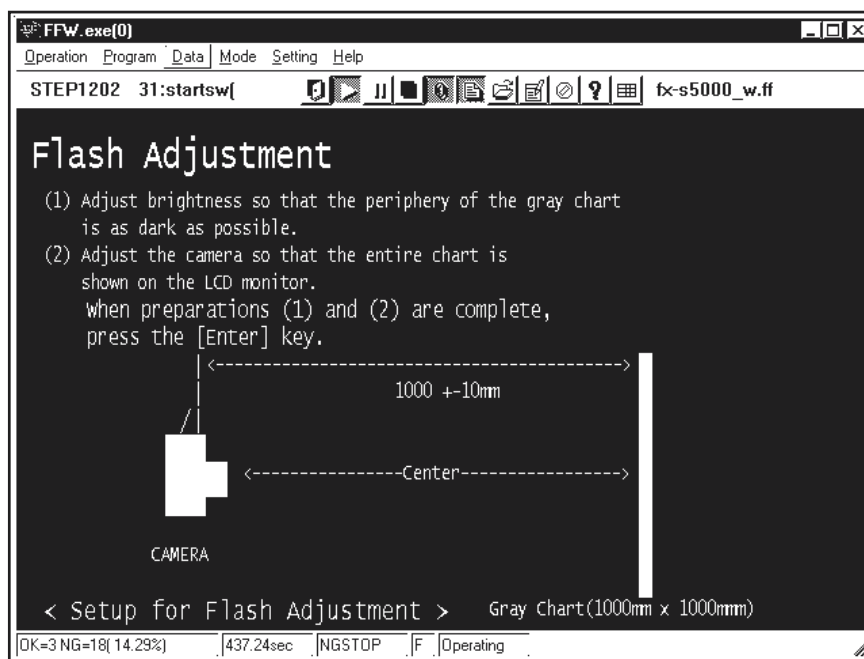

Fig.29
--->The [Flash Adjustment start Screen (Fig.29)] appears.